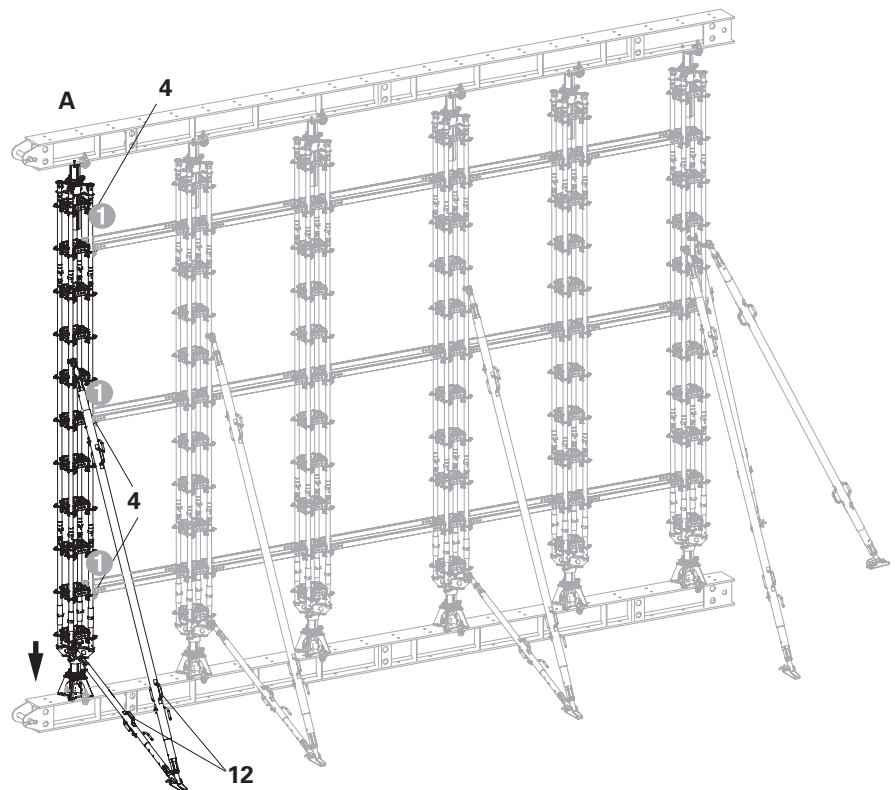

Fig. A7.01
3. Lower the Heavy-Duty Prop HD (A). (Fig. A7.01)
4. Release wedges ③.